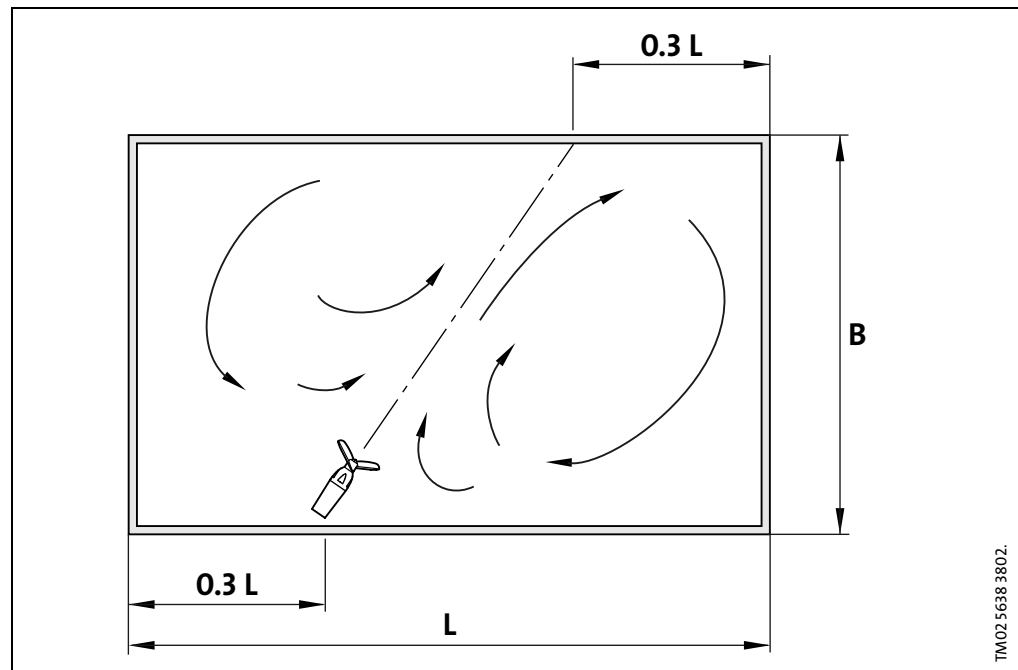

Fig. 18 Deposited solids are mixed with the liquid of a rectangular tank
- that the deposited solids are mixed with the liquid (see Fig. 18).